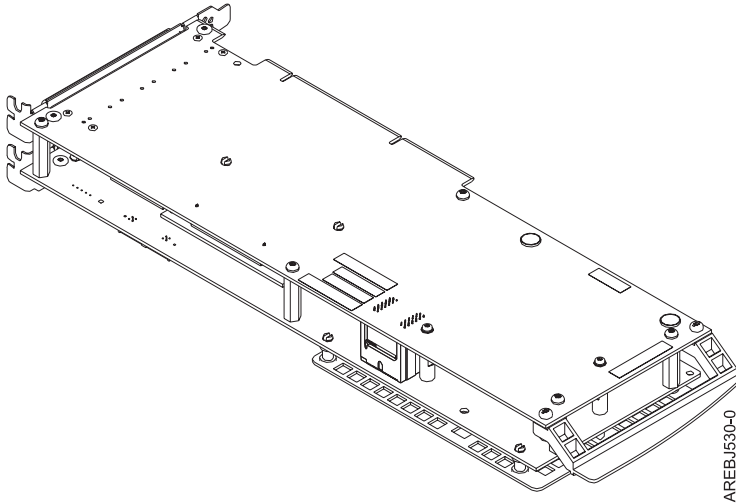

Figure 36. 572F/575C card set adapter
2. Place the 572F/575C card set adapter on an ESD protective surface and orient it as shown in Figure 36.